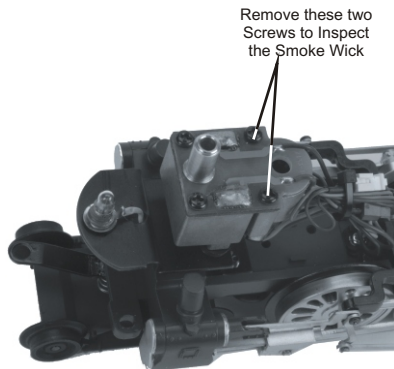

Figure 15
2. Use a phillips head screwdriver to remove the inspection cover screws as seen in Figure 15.